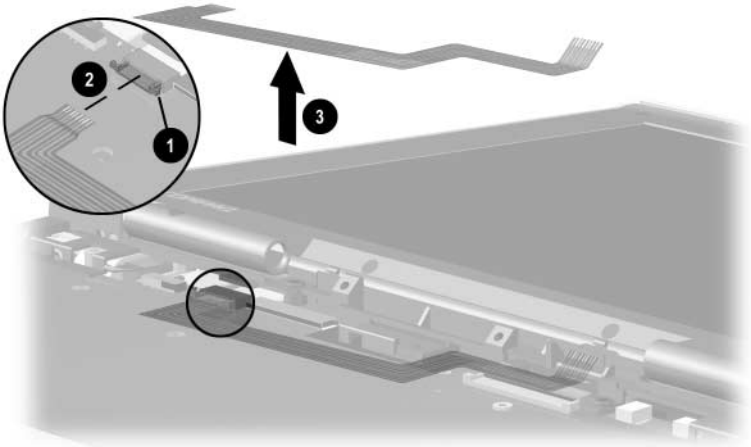

Figure 5-9. Removing the LED Board Cable
1. Release the ZIF connector ❶ to which the LED board cable is connected and disconnect the LED board cable ❷ (Figure 5-9).
2. Remove the LED board cable ❸.